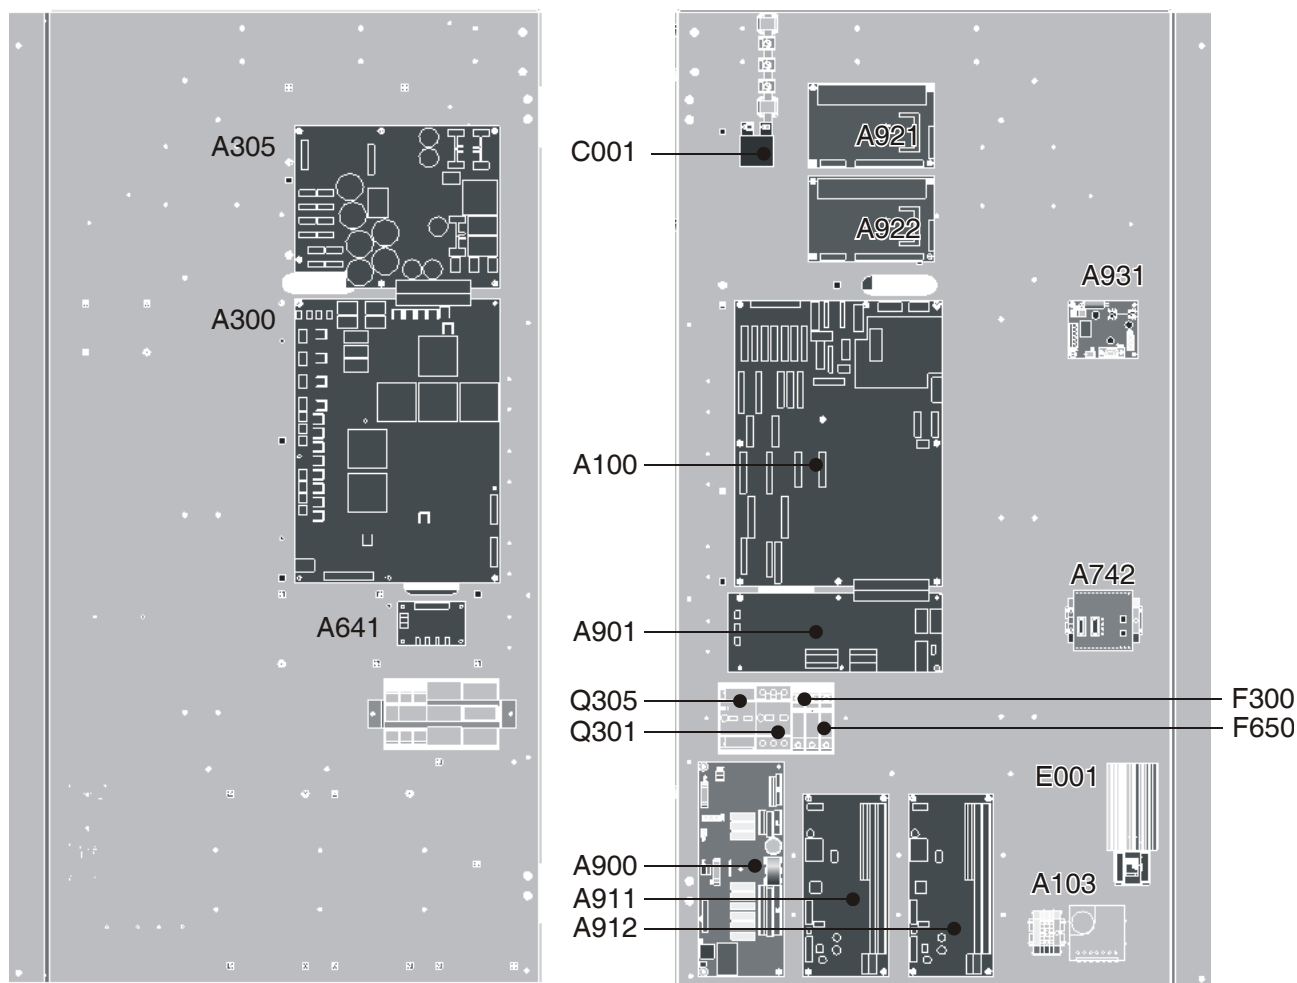

Fig. 11-10 Boards APOCONV 160 – 200 kVA
**NOTE** Mounting plate see Fig. 11-10.